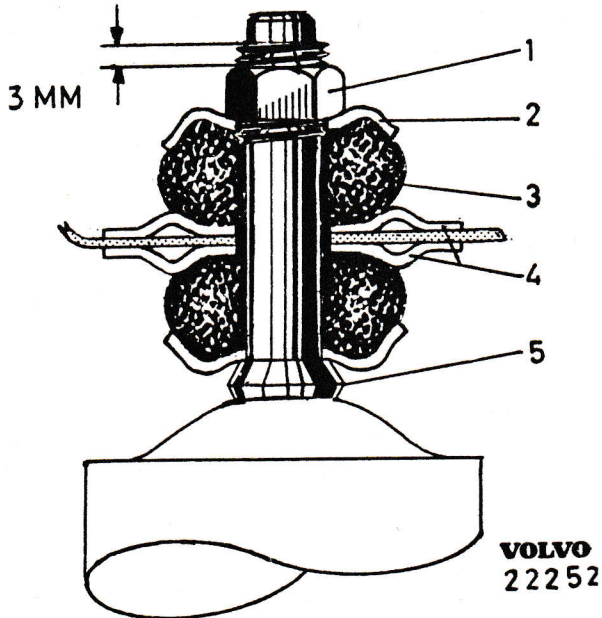

Fig. 6. Upper, rear shock absorber attachment.
The design of the shock absorbers is shown in Fig. 5. The outer cylinder (1) acts only as a guard against dust and dirt. The two remaining cylinders (2 and 4) are concentrically installed, with one pushed entirely in the other. The operating cylinder (2), or pressure tube, is fitted with a valve (6) at its lower end. A plunger (5) with valve operated channels slides in the pressure tube (see Fig. 6). The plunger is attached to a plunger rod (3), which is formed into an eye at its other end for attachment to the body. At the other end of the shock absorber a similar eye is attached to the cylinder (4). The space between the cylinders (2 and 4) serves as a reservoir and is only partially filled with fluid. The pressure tube is completely filled with fluid on both sides of the plunger (5). The cap (8) functions as a plunger seal and guide. The ring (7) is designed to prevent splash in the fluid.
uppermost and work the unit up and down four or five complete strokes or until one feels the shock absorber resisting in both directions. Fit in the reverse order to that used when removing. The shock absorber attachments are assembled as shown in Figs. 6—9.